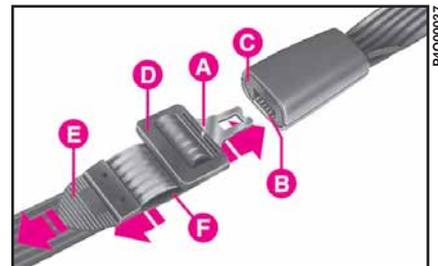

fig. 7
**To fasten the seat belt:** push the fastener tongue **A**-fig. 7 into slot **B** of the buckle, until you hear it click.